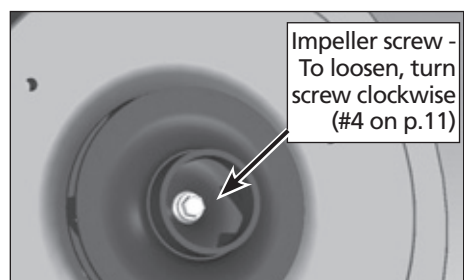

Figure 5
- Remove screw from center of impeller. The threads are reversed. Turn clockwise to loosen screw (Figure 5).